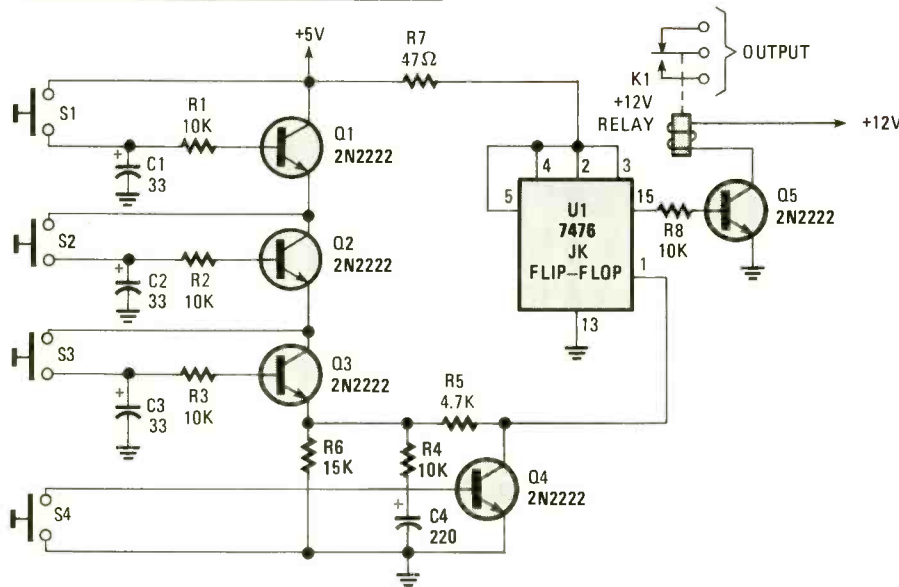

Fig. 5. This Keypad Sequential Switch is a simple and inexpensive way to add an electronic combination lock to your security system.
**Keypad Sequential Switch.** I use this circuit (see Fig. 5) to arm the security system in my home. It's a sequential-type switch that must be sequenced in the proper order. What's more, it must be sequenced in the time frame provided by the RC time constant on transistors Q1–Q3. That is to say, when S1 is closed, C1 begins to charge via the +5-volt supply bus. When S1 is released, the charge on C1 is bled off through R1, causing Q1 to conduct.